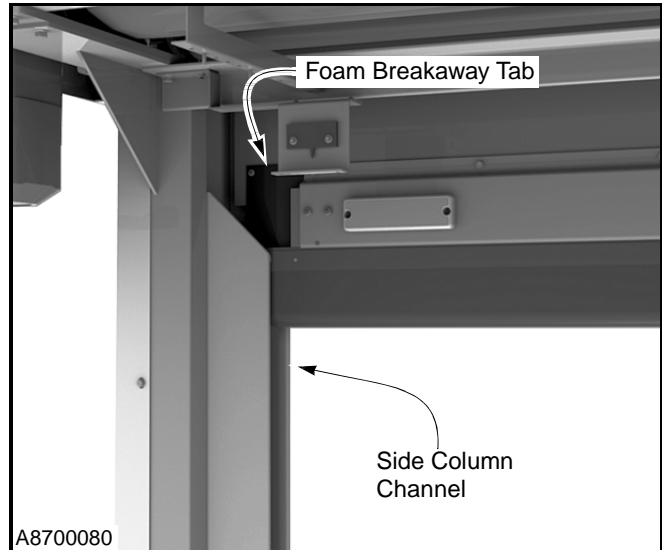

Figure 9
1. The breakaway tabs have popped out of the side column's channel due to impact. (See Figure 9)